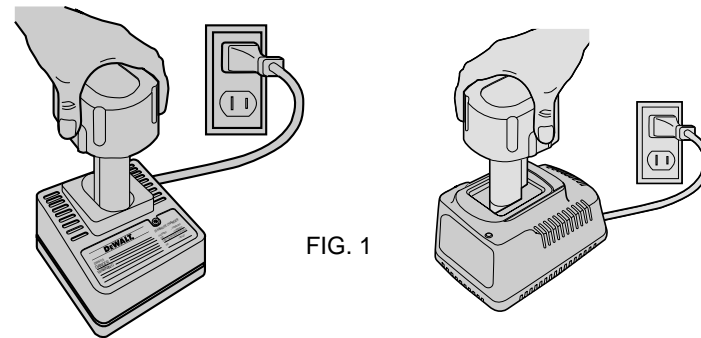

FIG. 1
2. Insert the battery pack into the charger, as shown in FIG.1, making sure the pack is fully seated in the charger. The red (charging) light will blink continuously indicating that the charging process has started.
2. Insert the battery pack into the charger, as shown in FIG. 1, making sure the pack is fully seated in the charger. The red light will blink and the charger will beep once indicating the charging process has started.